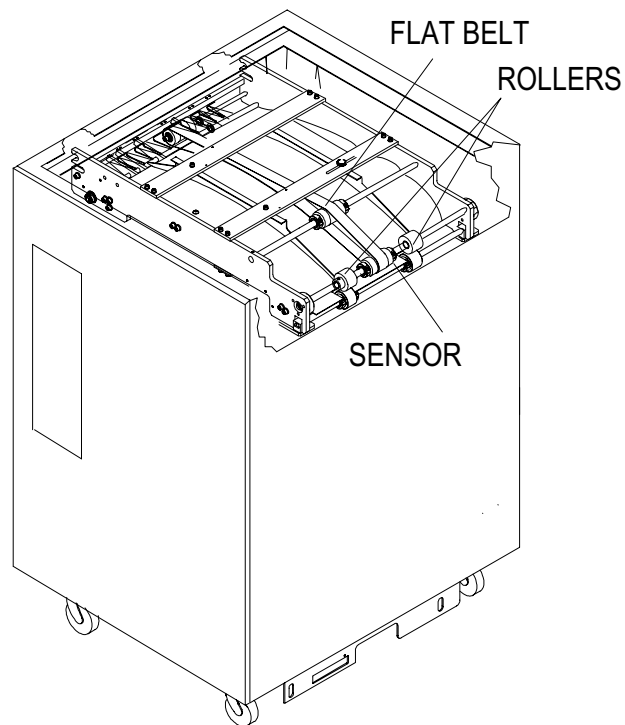

Figure 4-5: Cleaning the Bypass
- 2 Clean the three red feed rollers and the green Flat Belt, as shown in Figure 4-5, using only 90% Isopropyl alcohol and a clean lint-free cloth.
- 3 Clean the Sensor, as shown in Figure 4-5, using only 90% Isopropyl alcohol and a clean lint-free cloth.